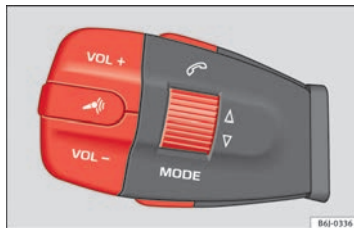

Fig. 45 Multifunction control buttons. ▶
With the system activated, if the button ⇒ Fig. 45 ↗ ("PTT") is pressed the voice control activates, and if there is no telephone connected, Bluetooth visible is turned on and a search for a telephone is begun.
- Turn on the ignition with the key. The vehicle system will be visible to the mobile phone via Bluetooth for 3 minutes. If the 3 minutes have passed you can also switch on Bluetooth visible again for 3 minutes by pressing the button  $\rightarrow$  ("PTT") ⇒ Fig. 45.
The voice control system is activated with the button ⇒ Fig. 45 ➤ (“PTT”).
You can start the dialogue at any time by briefly pressing the ⇒ Fig. 45 ➤ “(PTT)” button on the multifunction control.
You can terminate the dialogue at any time by briefly pressing the ⇒ Fig. 45 ➤ “(PTT)” button on the multifunction control. If the system is waiting for a command, you can end the dialogue with the “**CANCEL**” command.
By pressing the ⇒ Fig. 45 ➤ “(PTT)” button during the message, only the current message is ended and it is possible to give another command.